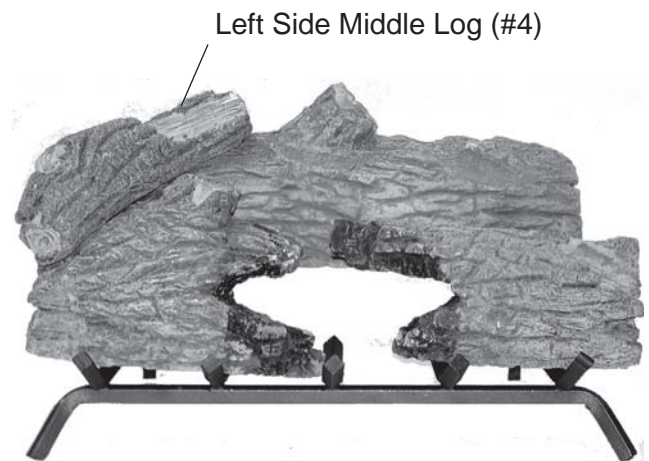

Figure 22 - Placing Left Middle Log (#4)
5. Install left side middle log #4 as shown. *See Figure 22.*